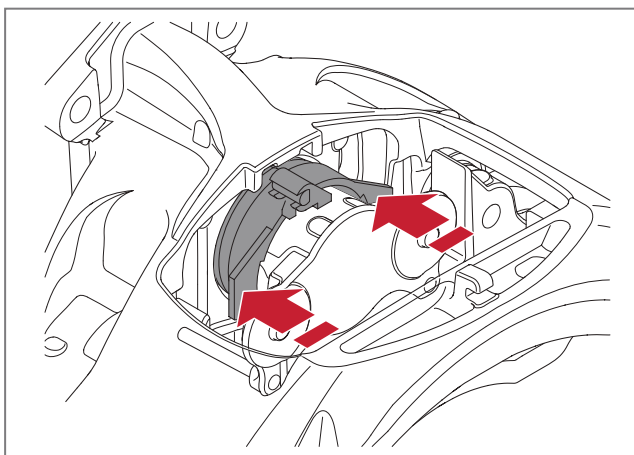

Fig. 53 - Pressing in the thrust plate bellows
11. Assemble SAF special tools P/N 4 434 3887 00 and P/N 4 434 3888 00 and insert them into the brake calliper end of the adjustment screw bellows, see ► Fig. 53.